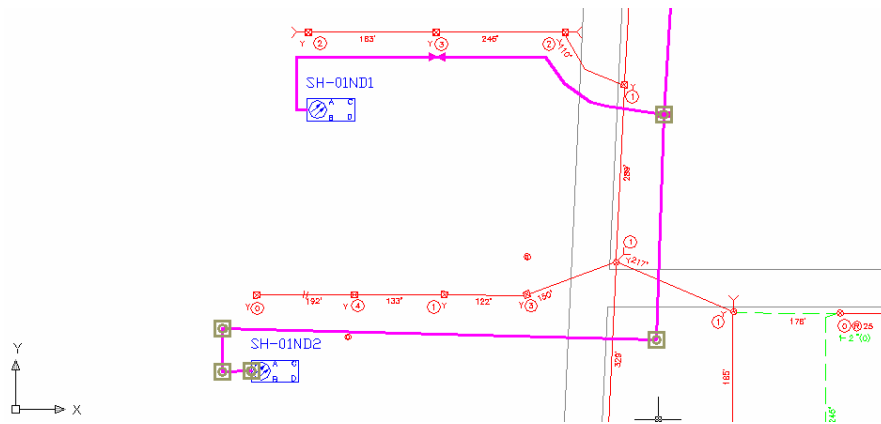

Figure 134 – New cable with new node.
9. Now run new cable to node **SH-01ND2**, so your design resembles Figure 134, shown below.